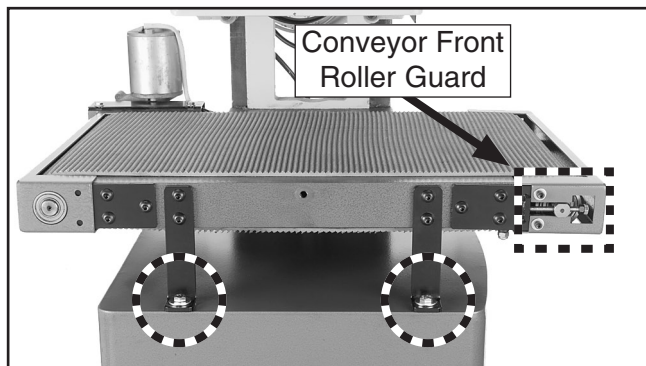

Figure 10. Mounting bolts and conveyor front roller guard (left side).
4. With an assistant to steady the sanding assembly on the forks, lift and move it into position over the cabinet stand so that the mounting holes line up (see **Figures 10 & 11**).
6. Remove the four 10-24 x 3/8" cap screws and flat washers from the front of the conveyor, slide the conveyor front roller guard onto the conveyor, and secure it with the cap screws and flat washers (see **Figure 10**).